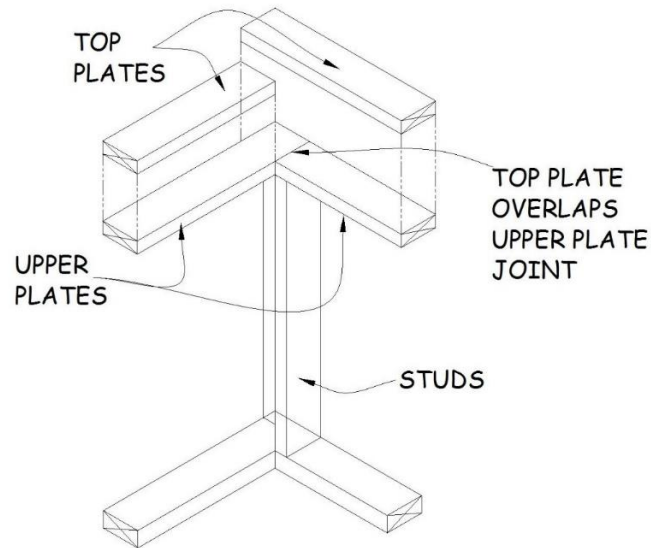

Figure 5-6. Interior Wall Top Plate Installation.
6. When nailing top plates, use three 3¼" collated nails or 16d nails across 2x6 plates and two 3¼" collated nails or 16d nails across 2x4 plates. Nail at each intersection of top plates and nail at each stud location. Note that the top plates at an intersection overlap the joints of the walls below (see Figure 5-6).